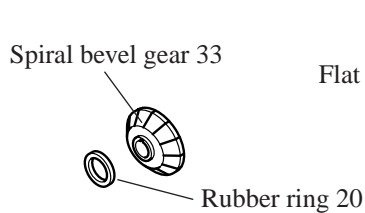

Fig. 8
- 1) Assemble rubber ring 20 to spiral bevel gear 33. See Fig. 8.